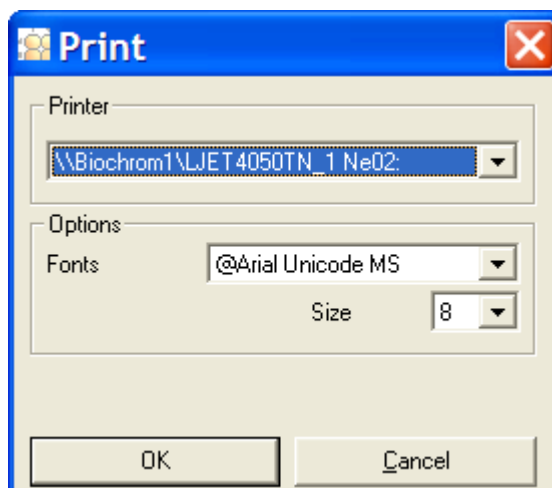

Figure 8-22: Print
4. From the File menu, select **Print**. Print appears (Figure 8-22).